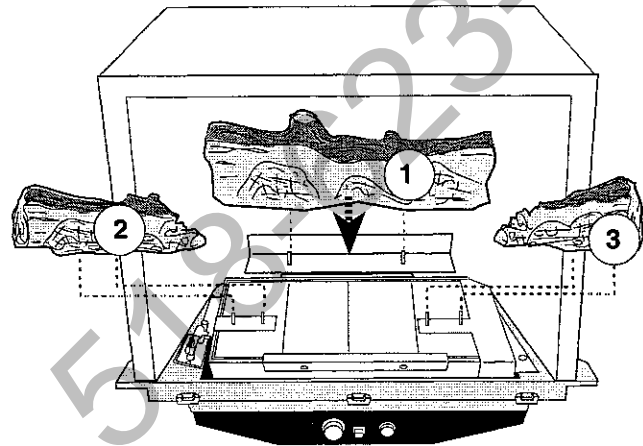

Fig. 20. Install the back, left, and right logs.
- Install the rear log (#1, Fig 20) by engaging holes on its bottom surface with pins on the sheet-metal shelf at the back of the firebox
- Install the left and right middle logs (#2 and 3, Fig 20) by engaging holes on their bottom surfaces with pins on the burner brackets Fig 20